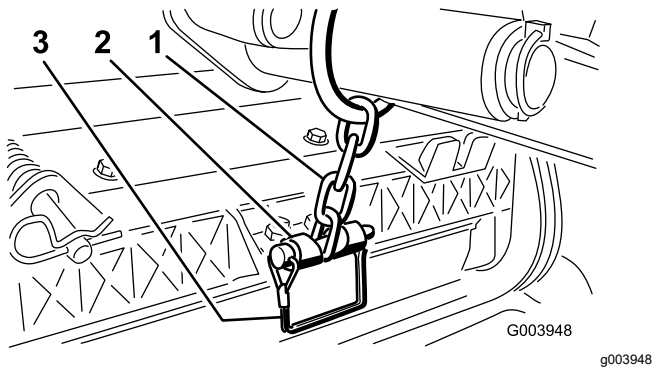

Figure 19
13. Secure the lift arm chain to the chain bracket with the snapper pin (Figure 19). Use the